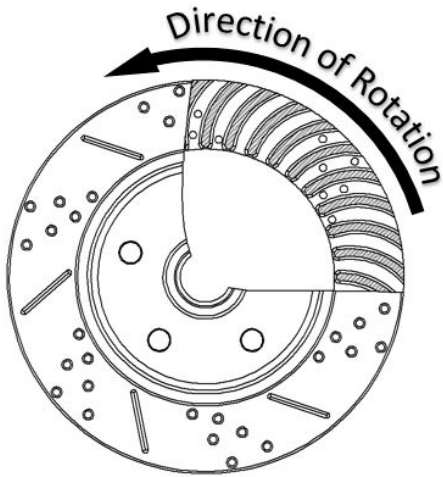
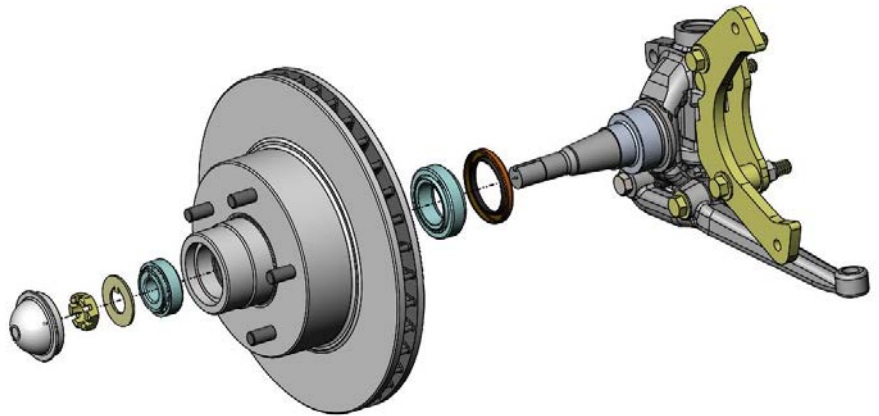

Figure 5 – Proper Rotor Direction
Figure 6 – Rotor Installation (Driver Side Shown)
9. Slide the rotor onto the spindle. The inner wheel bearing and grease seal should be installed at this point. Use Figure 5 on the next page to determine the proper Driver or Passenger side rotor placement. With the rotor fully pushed onto the spindle, install the outer wheel bearing followed by the keyed washer and re-use the original spindle nut. When tightening the spindle nut, tighten to 5-10 ft/lbs. Loosen the nut and tighten again using the same 5-10 ft/lbs. Do this a couple of times spinning the rotor to fully seat the wheel bearings onto the spindle. Loosen the nut a final time and re-tighten to remove all play. Tighten approximately an additional 1/16th of a turn to give the appropriate pre-load and line up the cotter pin hole. Install the cotter pin to secure the nut followed by the grease cap. Refer to Figure 6 on the next page for reference on rotor installation.